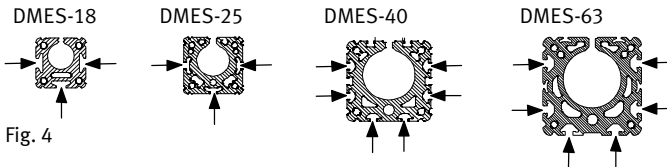

Fig. 4
- Use the marked slots when mounting the drive → Fig. 4.